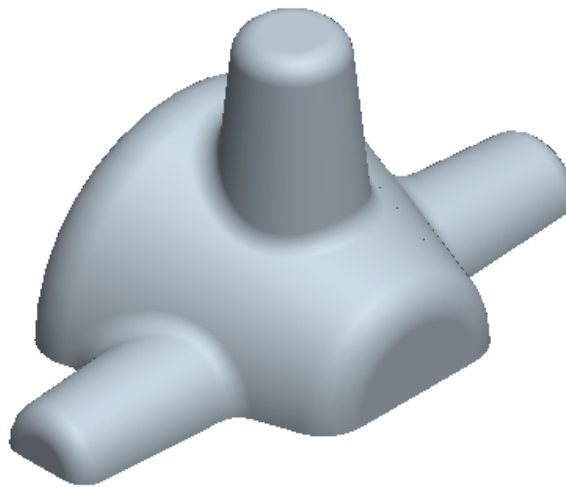
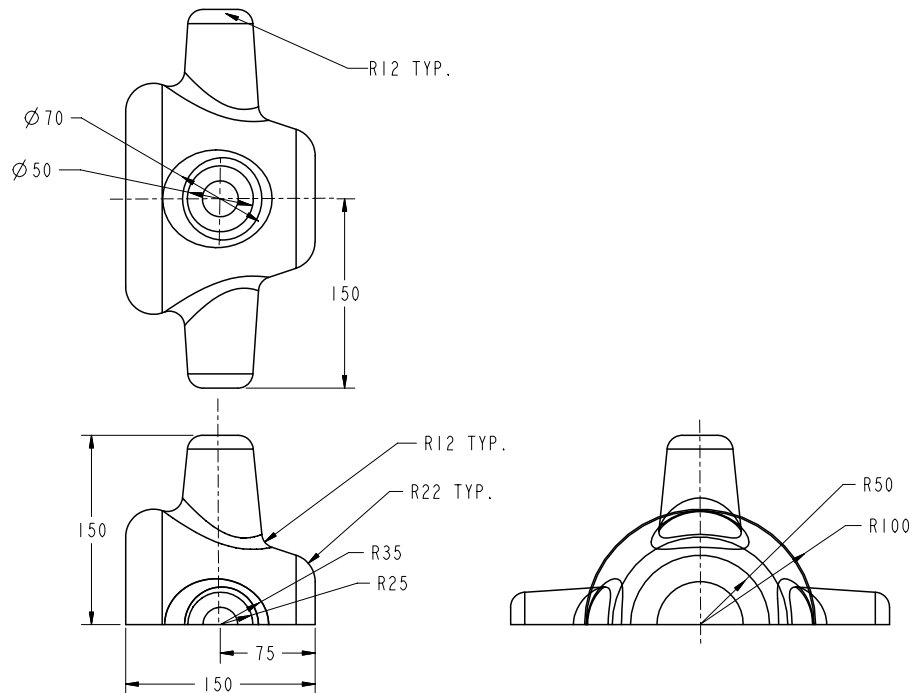

Figure 13-69 Isometric view of the surface model
Figure 13-70 Top view, front view, and the right-side view of the surface model
In this tutorial you will create the surface model shown in Figure 13-69. The orthographic views of the surface model are shown in Figure 13-70. **(Expected time: 45 min)**
- Examine the model and determine the number of features in it, refer to Figure 13-70.